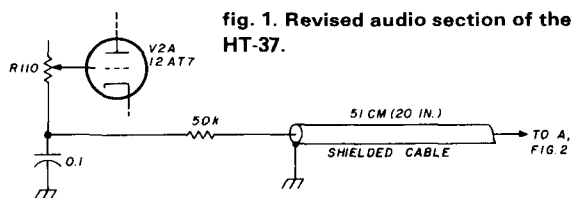

fig. 1. Revised audio section of the HT-37.
5. Solder one end of a 50k resistor to the former grounded terminal of R110, then connect the center wire of a 51-cm (20-inch) length of small shielded cable to the other end of the 50k resistor. Ground the cable shield to a convenient point inside the audio compartment. The revised audio section will then be as shown in **fig. 1**.